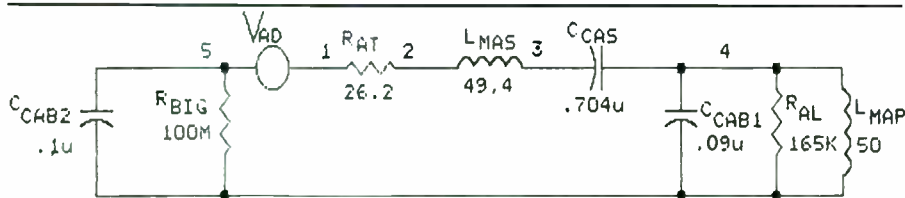

FIGURE 12: Bandpass 2 design data. n
**Bandpass (Type 2).** Figure 12 shows a bandpass speaker system with one surface of an internal driver connected to a simple enclosure, and the other to a ported enclosure. Jean Margerand wrote articles on this type of speaker system in the 6/88 and 1/89 issues of *SB*.